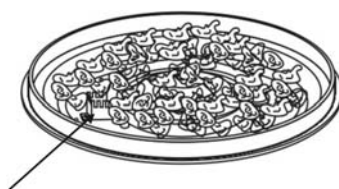

Figure 6
6. Pour the fire ice into the burner completely covering the burner. See Figure 6.